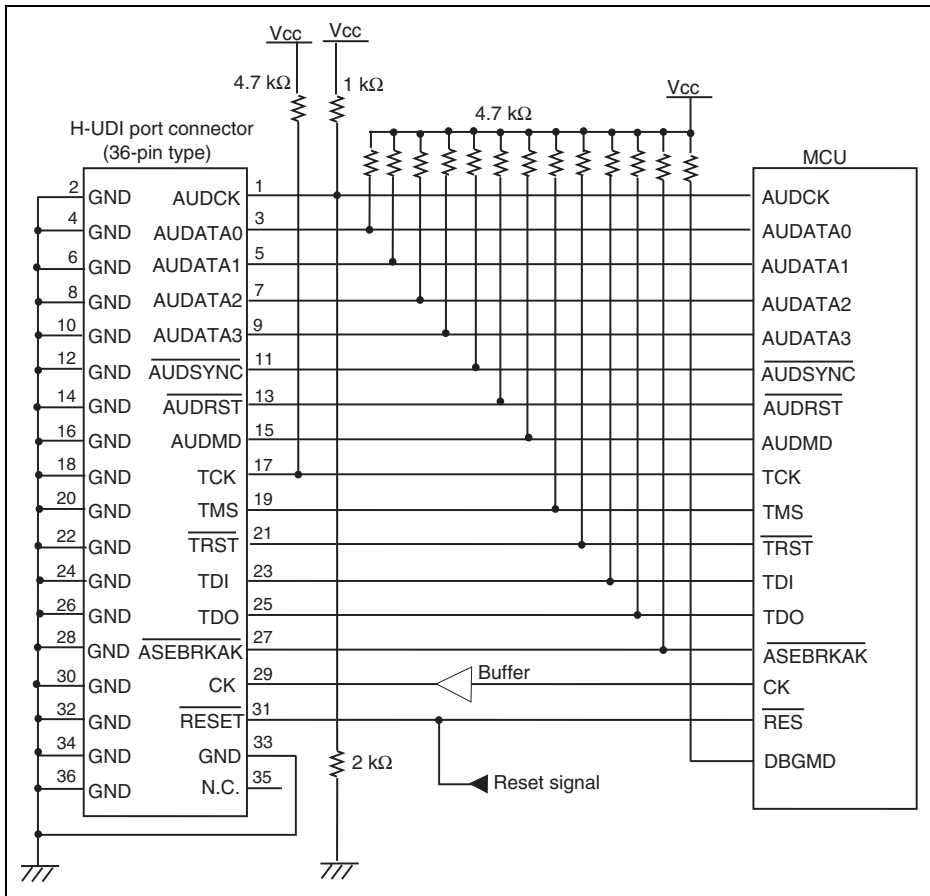

Figure 1.5 Recommended Circuit for Connection between the H-UDI Port Connector and the MCU (36-Pin Type)
Figure 1.5 shows a recommended circuit between the H-UDI port connector (36 pins) and the MCU.
- (1) When the emulator is used: DBGMD = high
- (2) When the emulator is not used: DBGMD = low
7. The resistance values shown in figure 1.5 are recommended.